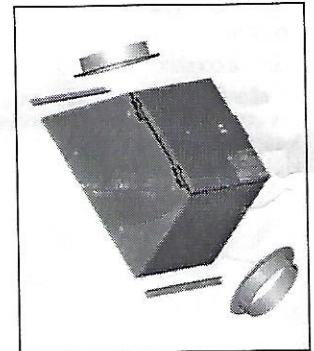
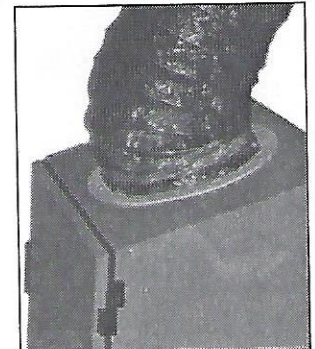

figure 2
figure 3
- Step 3** - Install 8" plastic port collars using the plenum mounting hardware provided in the HEPA Filtration System's kit. (16) 8 x 32 x 1/2" (fig. 2)
- Step 5** - Using the (6) No. 10 x 1" wood Screws provided in kit, mount the unit in the location that best suites the application.
- Step 6** - Connect to ductwork to finalize installation using duct tape to seal off all the joints. (fig .3)